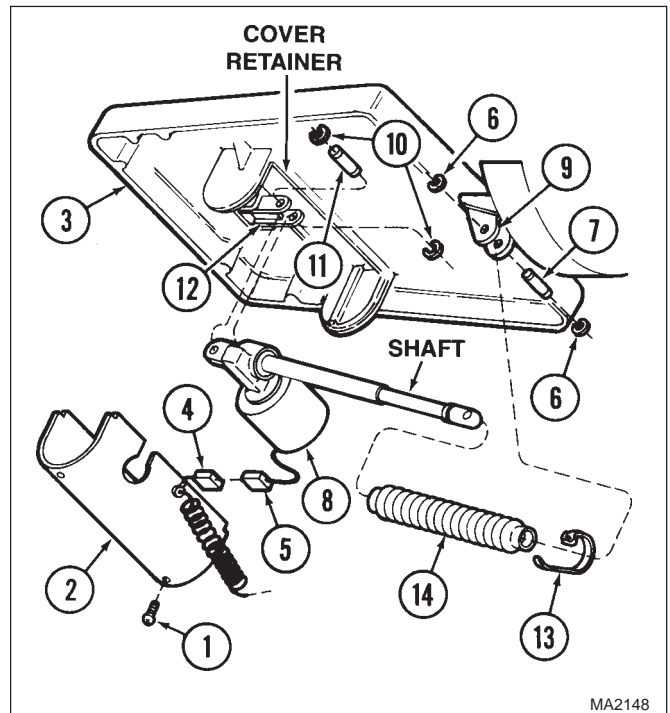

Figure 4-22. Foot Actuator Removal / Installation
- (1) If possible, operate the surgery table to raise the foot section and table top as high as they will go.
- (2) Disconnect all electrical power from the surgery table.
- (3) Remove two screws (1, Figure 4-22) and partially separate foot actuator cover (2) from foot casting (3).
- (4) Disconnect coil cord wire harness (4) from foot actuator wire harness (5) and remove foot actuator cover (2).
- (1) Slide foot bellows (14, Figure 4-22) over shaft of foot actuator (8) so the edge of the foot bellows fits just over the lip on the foot actuator shaft.